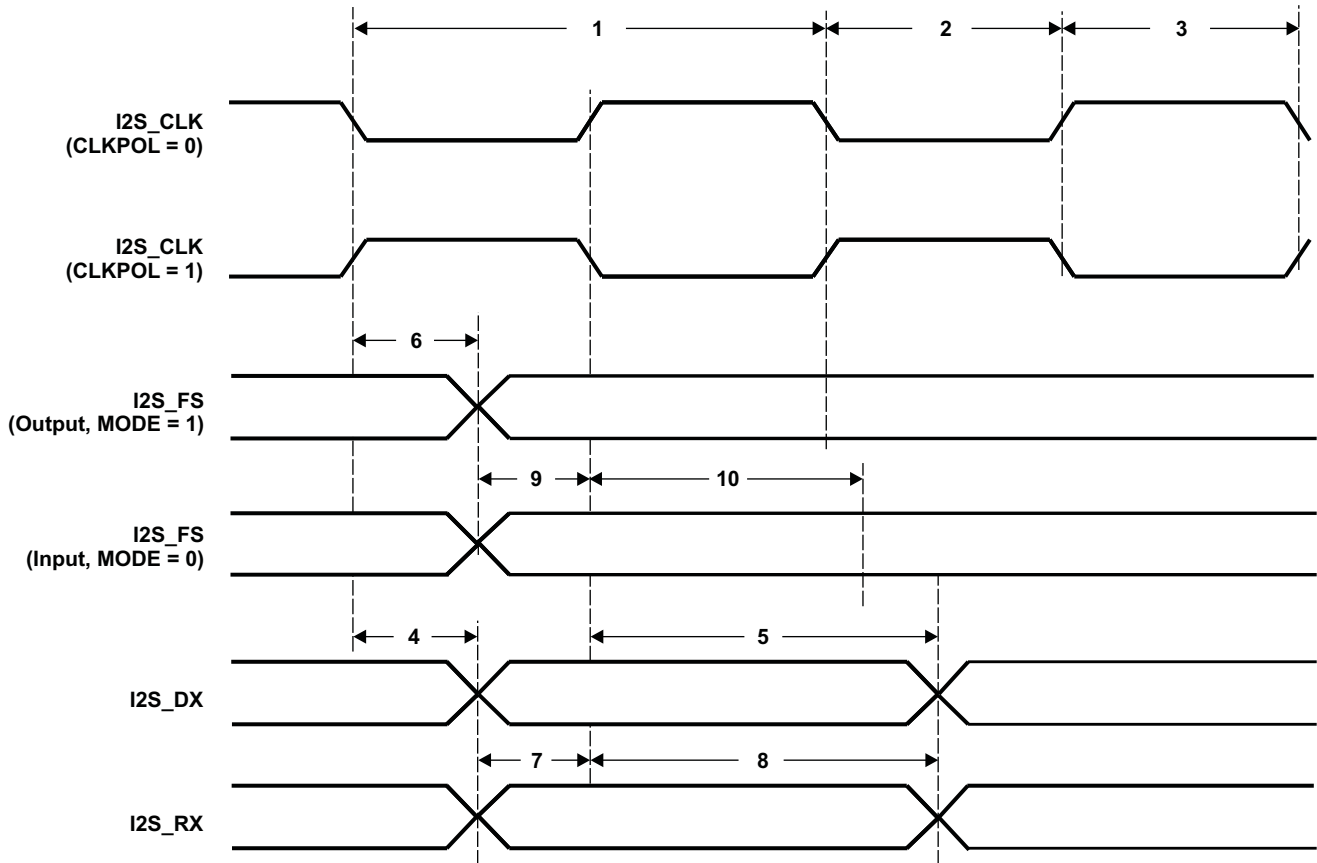

Figure 6-25. I2S Input and Output Timings
**Table 6-31. Timing Requirements for I2S [I/O = 3.3 V, 2.8 V, and 2.5 V](1) (see Figure 6-25)**
- (1) P = SYSCLK period in ns. For example, when running parts at 100 MHz, use P = 10 ns.
(2) Use whichever value is greater.
(3) In Slave Mode, I2S\_FS is required to be latched on both edges of I2S input clock (I2S\_CLK).
**Table 6-32. Timing Requirements for I2S [I/O = 1.8 V](1) (see Figure 6-25)**
[I/O = 3.3 V, 2.8 V, or 2.5 V] (see Figure 6-25)**
(1) P = SYSCLK period in ns. For example, when running parts at 100 MHz, use P = 10 ns.
**Table 6-34. Switching Characteristics Over Recommended Operating Conditions for I2S Output [I/O = 1.8 V] (see Figure 6-25)**